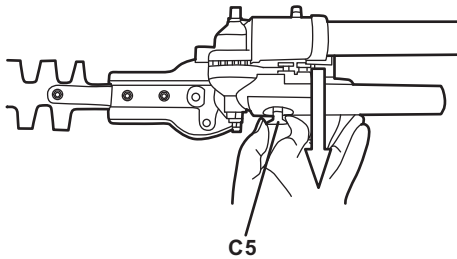

Fig. 28a
1. Pull the locking pin (C5) out. (See Fig. 28a)